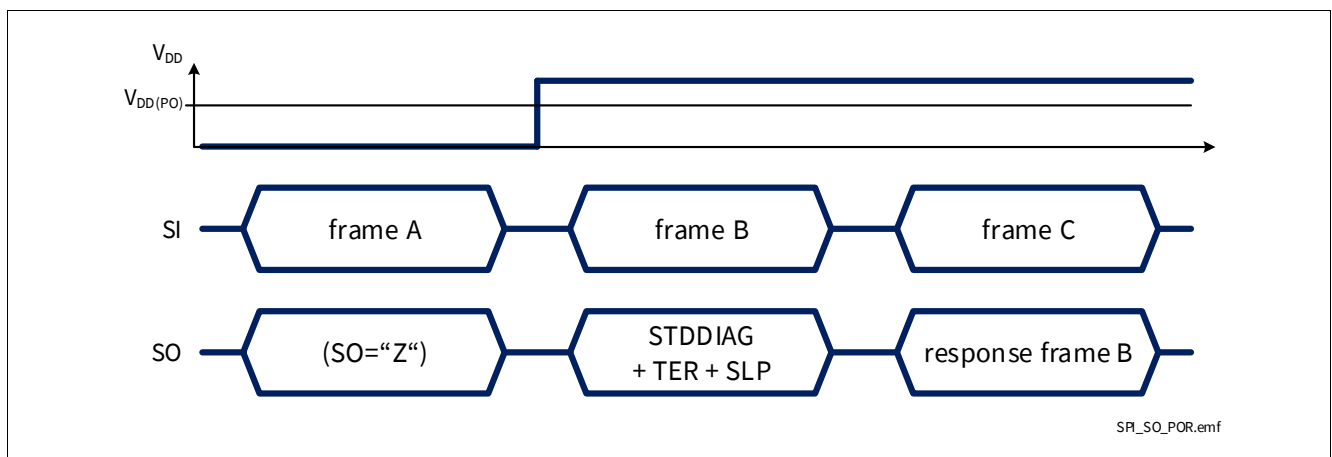

Figure 44 SPI response after coming out of Power-On reset at V_{DD}
- When BTS71220-4ESA digital supply comes out of Power-On reset condition, as shown in **Figure 44**